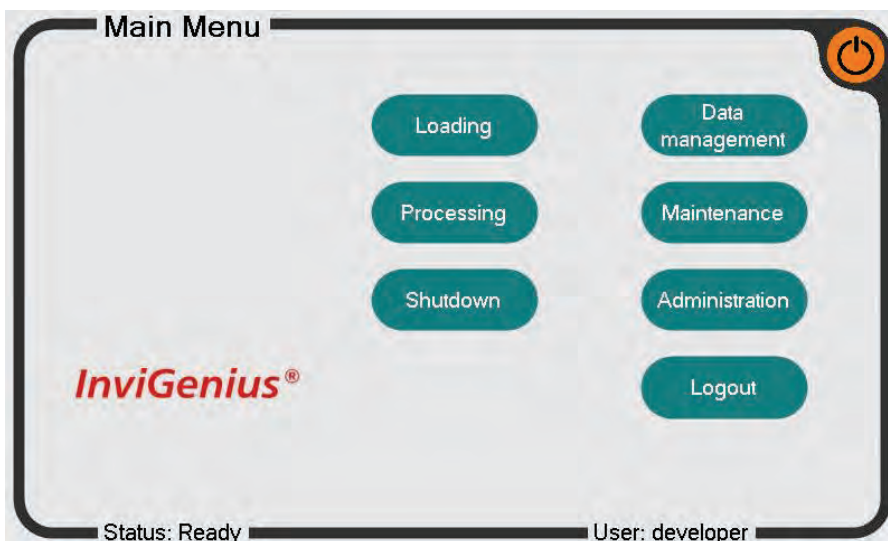
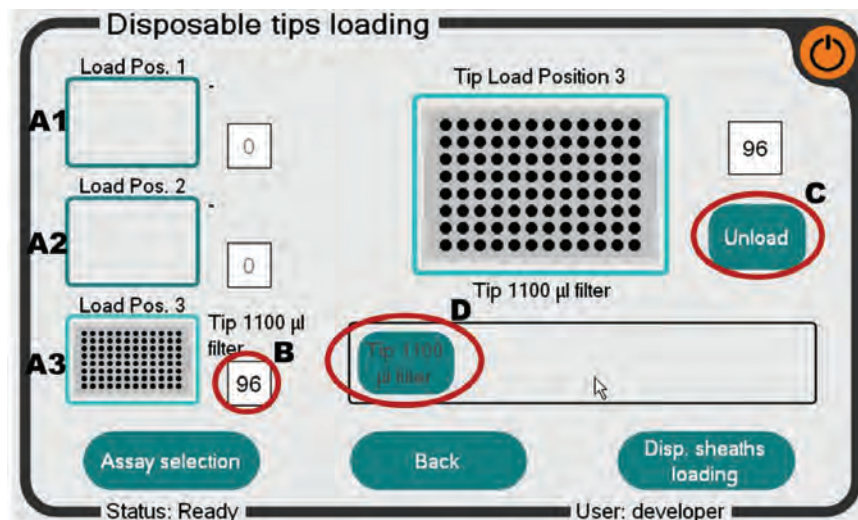

Figure 3: Main menu of the InviGenius® software
Figure 8: Disposable tip loading screen
After login the main screen of the InviGenius® software is shown (Figure 3). Select “Loading” to start with loading of the system. Select “Processing” to define and run an assay if the system has already been loaded.
There are three tip rack positions on the InviGenius® system (Fig. 8, A1-A3; corresponding to Fig. 3, D1-D3). Remaining tip-numbers are shown in field (B). Tip-numbers can be changed by pressing the number-field directly.